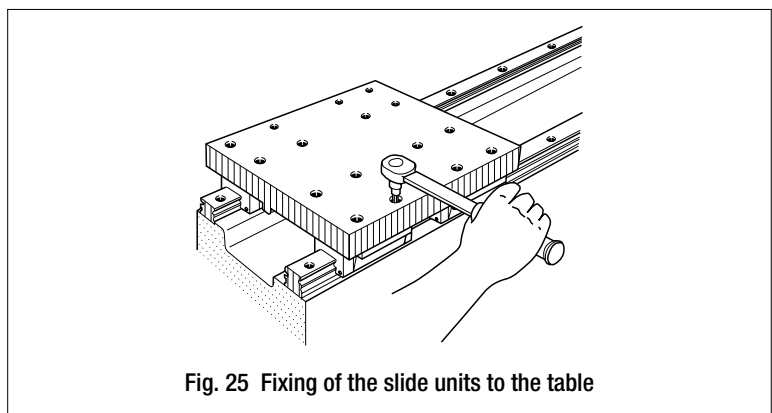

Fig. 25 Fixing of the slide units to the table
④ Temporary fixing of Linear Way I and II slide units
⑤ Final fixing of Linear Way I slide units
⑥ Fixing of Linear Way II slide units
- Correctly fix one of the slide units of Linear Way II in relation to the linear motion direction and leave other slide units temporarily tightened with mounting bolts. (See Fig. 25.)